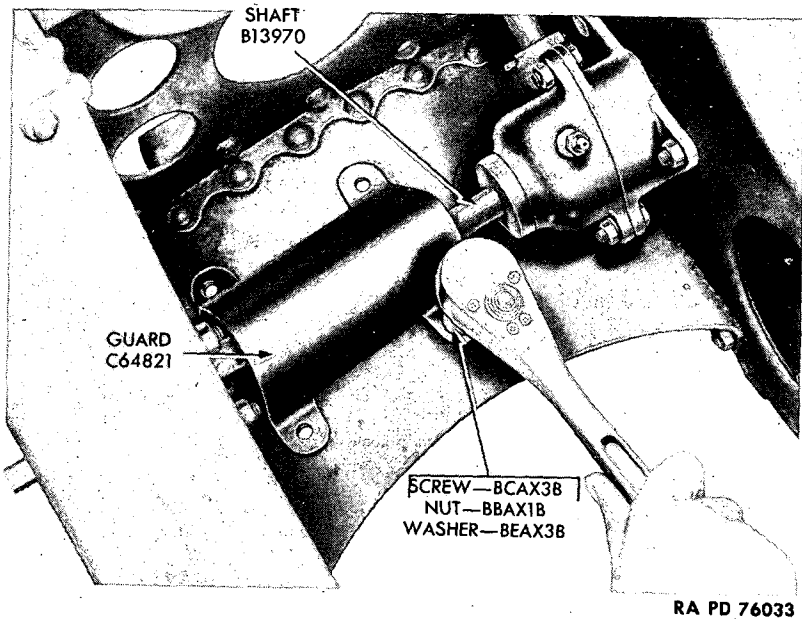

Figure 74—Removing Elevating Crankshaft Guard
(5) **REMOVAL AND DISASSEMBLY OF ELEVATING CRANK SHAFT** (figs. 74, 75, and 76).
(a) Remove elevating crank shaft guard by removing the four screws, nuts, and washers (fig. 74).